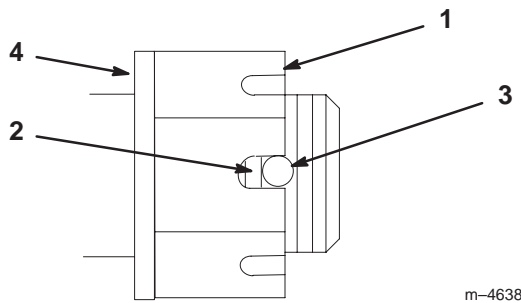

Figure 45
3. Torque slotted nut to 125 ft-lbs (169.5 N•m) (Fig. 45).
4. Check the distance from bottom of slot in nut to inside edge of hole. Two threads or less should be showing (Fig. 45).
5. If more than two threads are showing remove nut and install washer between hub and nut (Fig. 45).
6. Torque the slotted nut to 125 ft-lbs (169.5 N•m) (Fig. 45).
7. Tighten nut until the next set of slots line up with the hole in the shaft (Fig. 45).